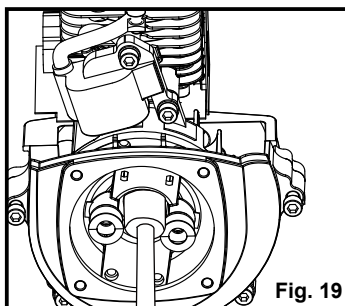

Fig. 19
- Remove the nut using an impact driver (Fig. 19).